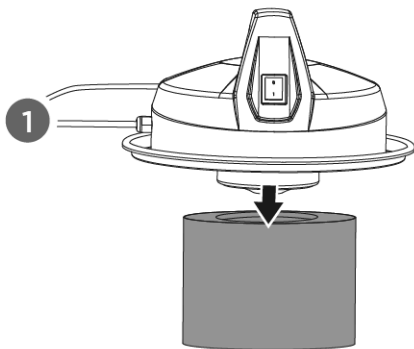

Figure 4
3. Slide filter cartridge with bag off motor. (See Figure 4)